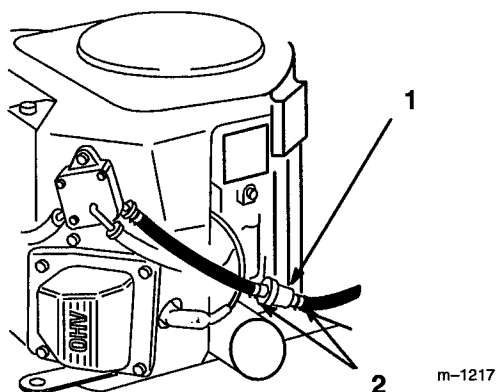

Figure 26
3. Squeeze the ends of the hose clamps together and slide them away from the filter (Fig. 26).